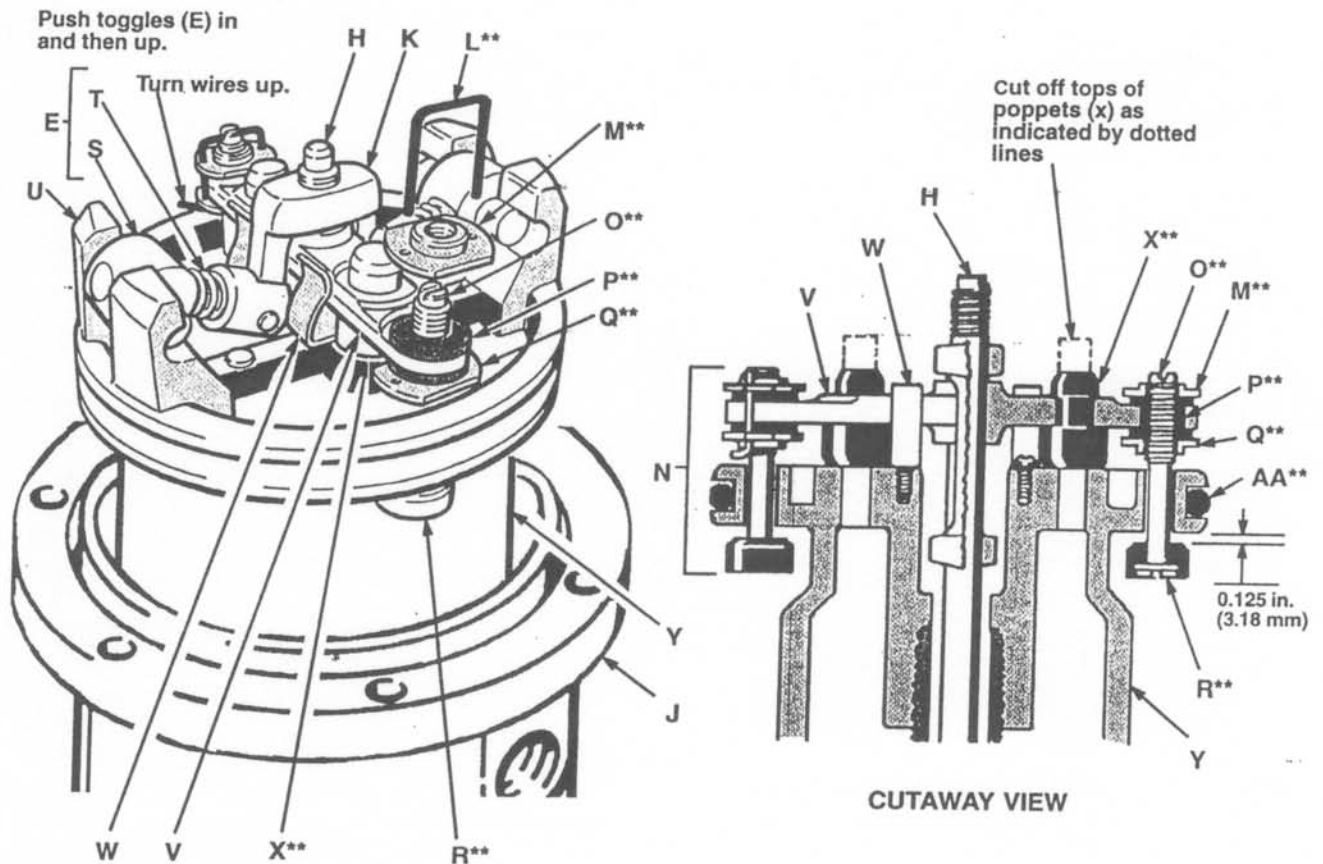

Fig. 3
Always keep fingers clear of the toggle assemblies (E), to avoid pinching or amputating them. See Fig. 3.
5. Use a screwdriver to push down on the trip rod yoke (K) and snap the toggle assemblies (E) down. See Fig. 3. Remove the lockwires (L) from the adjusting nuts (M and Q) of the transfer valves (N). Screw the top nuts (M) off. Screw the valve stems (O) out of the grommets (P) and lower adjusting nuts (Q). Take the valve poppets (R) off the stems and squeeze them firmly to check for cracks.
- Grip the toggle rockers (S) with a pliers. Compress the springs (T) and swing the toggle assembly (E) up and away from the piston lugs (U), and remove the parts. Check that the valve actuator (V) is supported by the spring clips (W), but slides easily into them. See Fig. 3.
- Remove the trip rod yoke (K), valve actuator (V) and trip rod (H). Check the exhaust valve poppets (X) for cracks.
4. Be sure the o-rings are in place. Slide the piston rod down through the throat bearing and lower the piston (Y) into the air motor base (J).
5. Pull the exhaust valve poppets (X**) into the valve actuator (V) and clip off the top part shown with dotted lines. See Fig. 3.
6. Install the transfer valve poppets (R**) onto the valve stems (O**), then reassemble the valve stems (O**), bottom adjusting nuts (Q**), grommets (P**), and top adjusting nuts (M**) on the piston (Y). Assemble the trip rod (H), valve actuator (V), trip rod yoke (K) and toggle assemblies (E) on the piston. See Fig. 3.
7. Before installing the lockwires (L**) in the adjusting nuts (M** and Q**), use the special gauge 171818 to adjust the transfer valve (N) so there is 0.125 in. (3.18 mm) clearance between the poppets (R**) and the piston (Y) when the toggle assemblies are in the *down* position. See Fig. 3.
8. Snap the toggle assemblies (E) to the *up* position. Reinstall the cylinder (G) and cap nut (F). Reassemble the air motor to the displacement pump.